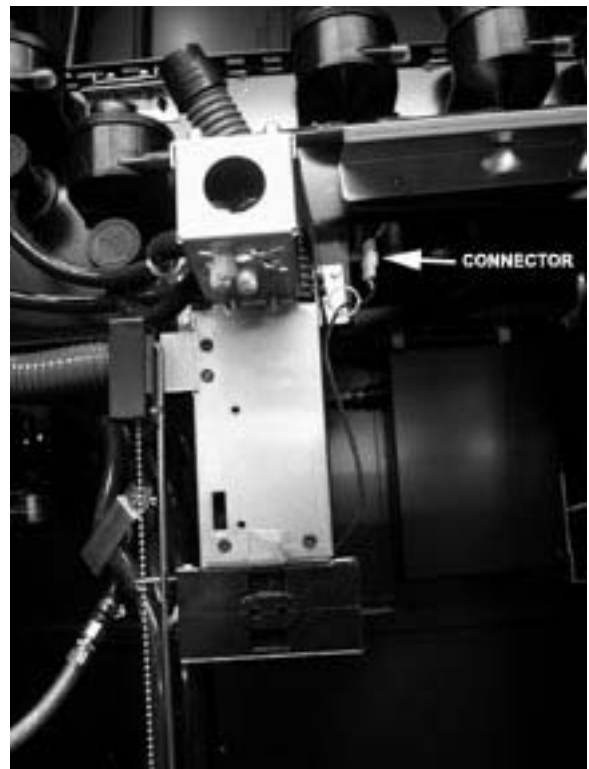

Figure 8
5. Observe the location of the 4-pin connector (See Figure 8):